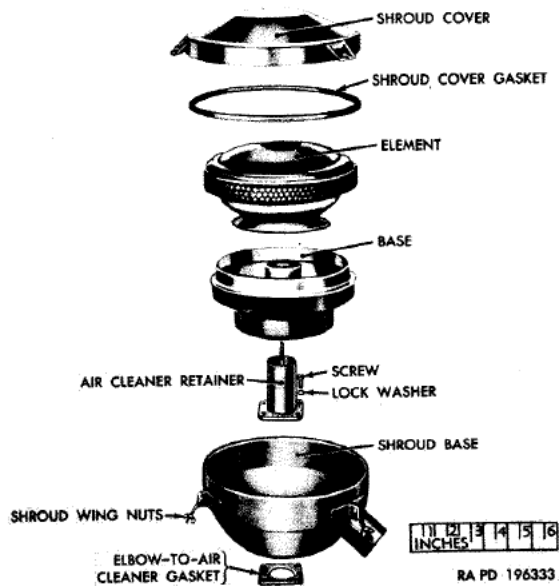

Figure 100. Carburetor air cleaner with shroud—exploded view.
a. Description. The carburetor air cleaner is an oil bath-type with a replaceable element (fig. 100). Its purpose is to remove dirt and other foreign matter from the air before it enters the carburetor. The air cleaner shroud provided on vehicles of early manufacturers was discontinued on later vehicles (par. 6). Maintenance of both types of air cleaner is described in this section.
- (1) On air cleaners equipped with a shroud, loosen the three shroud wing nuts attaching the shroud cover to the shroud base. Disengage the eye bolts from the retainer brackets and remove the shroud cover with gasket.
- (2) Loosen the wing nut on top of the air cleaner element and remove the reservoir and element as a unit.
- (3) Lift the element from the reservoir.
- (4) Remove the oil from the reservoir and clean both the element and the reservoir with volatile mineral spirits or dry-cleaning solvent and dry with compressed air.
- (5) Install the reservoir on the air cleaner retainer.
- (1) Install a new elbow-to-air cleaner gasket (fig. 100) on the air cleaner elbow, alining the screw holes.
- (2) On vehicles so equipped, position the shroud base on the gasket with the snorkel extension toward the right fender.
- (3) Position the air cleaner retainer in the shroud base or on the elbow-to-air cleaner gasket, alining screw holes. Install four $\frac{5}{16}$ -inch external-teeth lockwashers and $\frac{5}{16}$ -18NC x $\frac{3}{4}$ fillister-head screws. Tighten screws.
- (4) Install the air cleaner reservoir, element, and shroud cover (b(7) and (8) above).